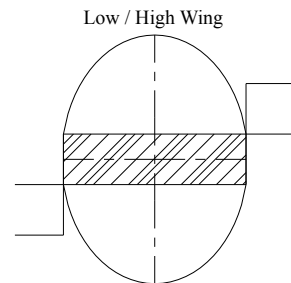

Fig.3
4. If the bottom of the wing falls on or above the top reference line, it's a high or shoulder-wing (Fig. 3).
5. If the top of the wing falls on or below the bottom reference line, it's a low-wing (Fig. 3).